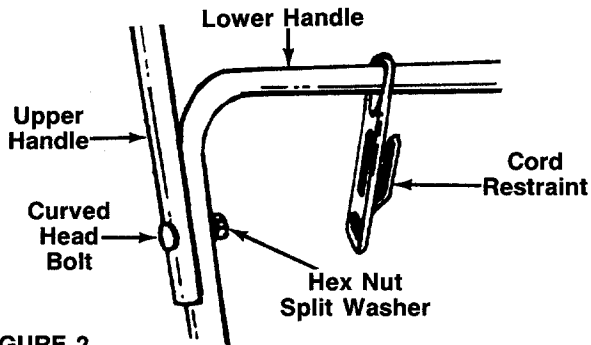

FIGURE 2.
1. Slide the cord restraint over the lower handle as shown in figure 2, page 6.
1. Place the upper handle in position over the lower handle. The two holes for the motor/blade control must be on the right hand side of the handle. Secure the upper handle using the curved head bolts, split washers and hex nuts as shown in figure 2. Make sure the cord restraint is on top of the upper handle.